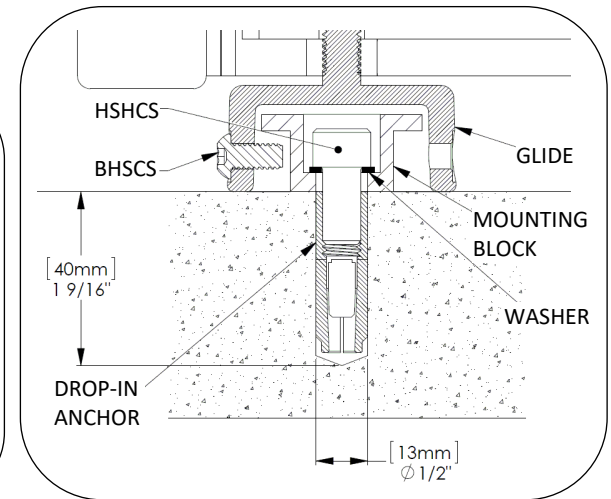

Fig. 3
2. Move bench and drill holes according to Fig 3. Clear holes of debris.
7. Install button head cap screw through the hole in the glide as shown in Fig. 3. Repeat for all glide locations.